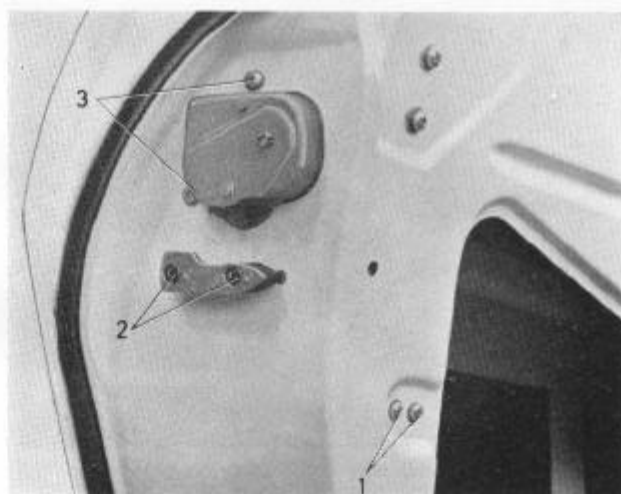

Fig. 8-16. Screws for door lock
5. Unscrew the two screws (1, Fig. 8-16) for the link arm for the remote control and the two screws (2, Fig. 8-16) which hold the guide for the lock.
6. Unscrew the remaining two screws (3, Fig. 8-16) and take the lock out through the hole in the inner plate of the door.
2. Place the lock in position in the door and fit the screws (1, 2 and 3, Fig. 8-16).